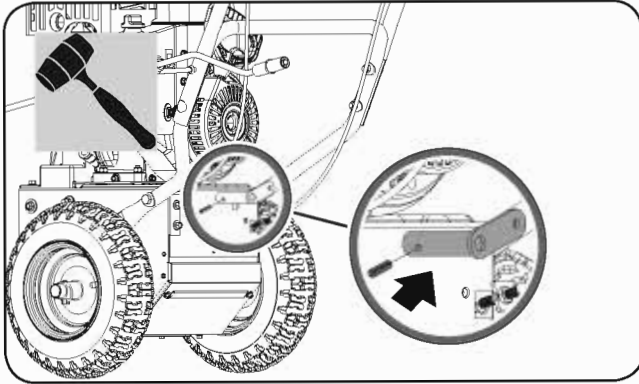

Figure 6a
1. Place the shift arm on shift yoke. Make sure the linkage plate points to the right. Line up the holes in the shift arm and shift yoke. Insert a roll pin through the hole. (See **Figure 6a**)